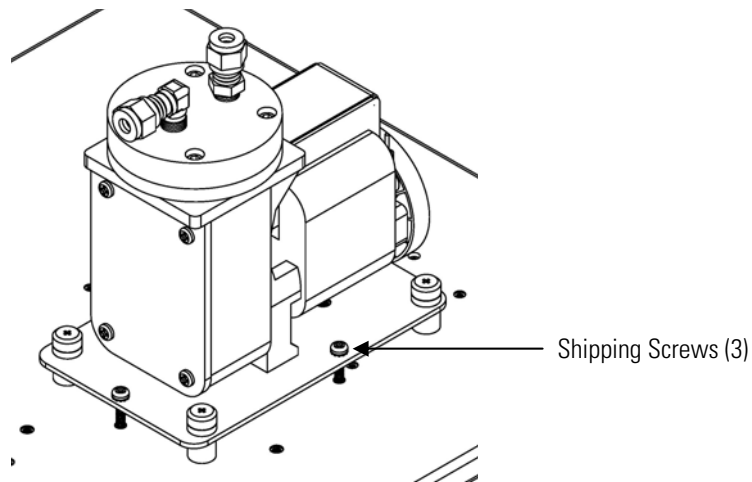

Figure 2-2. Removing the Shipping Screws
4. Remove the three shipping screws (**Figure 2-2**).